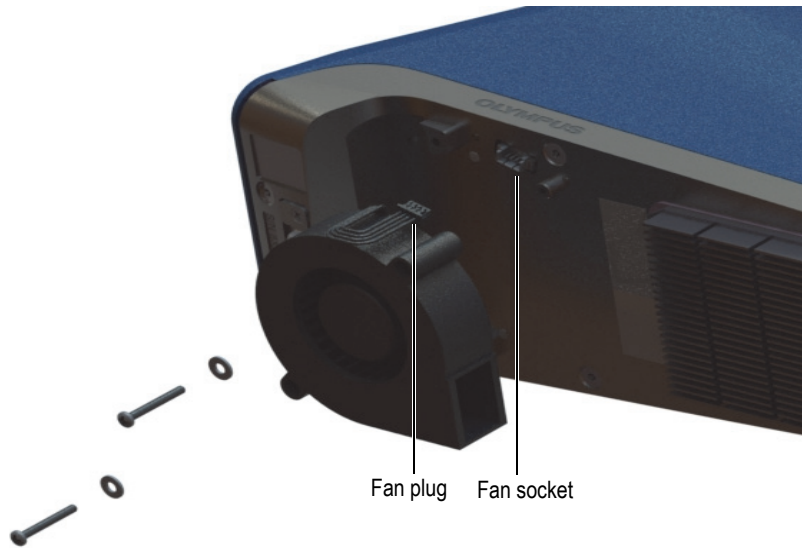

Figure 4-5 Fan installation
4. Align the internal fan electrical plug with the fan socket and firmly insert the plug into the socket (see Figure 4-5 on page 95).